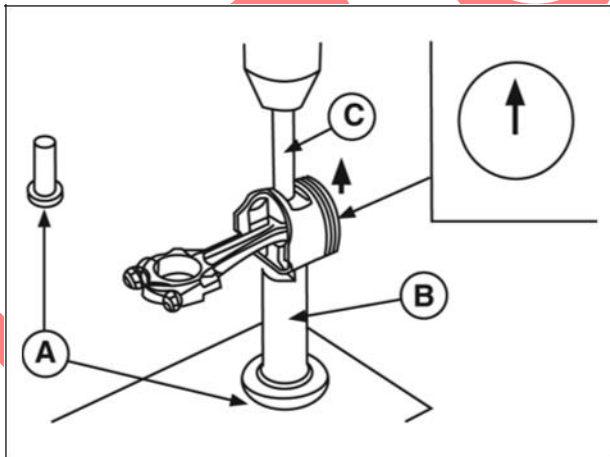

Figure 2
NOTE: Piston pin stop (A, Figure 2) must be removed from support (B) when disassembling piston and connecting rod.
4. Insert threaded driver (C) through piston pin from FRONT side of piston and thread into pilot.